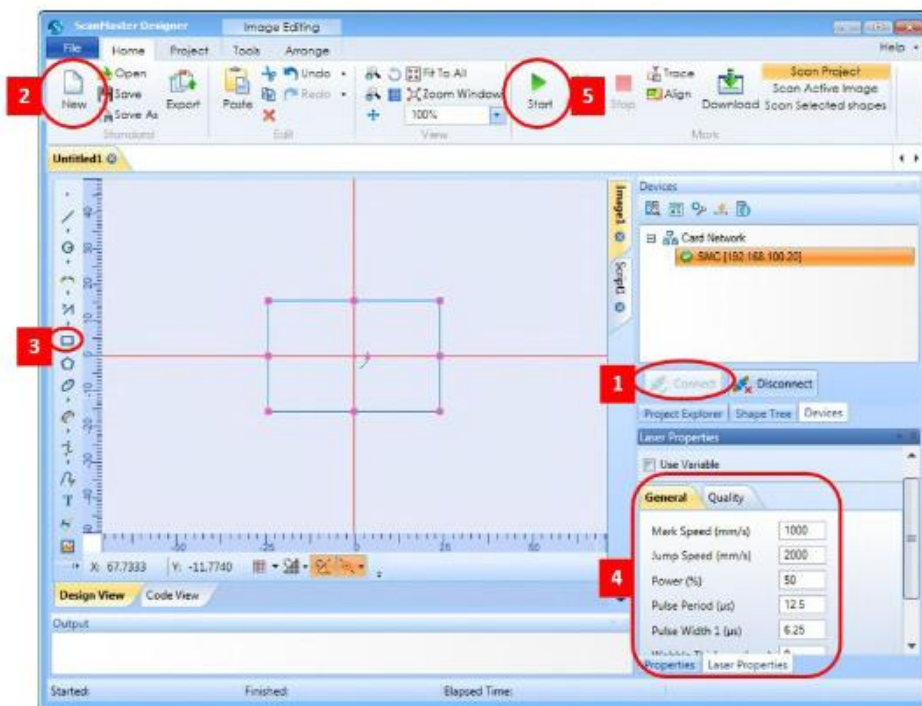

Figure 27: Setting up a simple job in ScanMaster Designer
- Connect the SMC by left clicking "Connect" in the Devices Tab in the GUI (Step 1 Figure 27)
- Start a new project by left clicking "New" (see Step 2 in Figure 27)
- Select the Box shape and draw a box on the Canvas (see Step 3 in Figure 27)
- Set up the shape and laser properties (see Step 4 in Figure 27)
- Left click "Start" (see Step 5 in Figure 27)